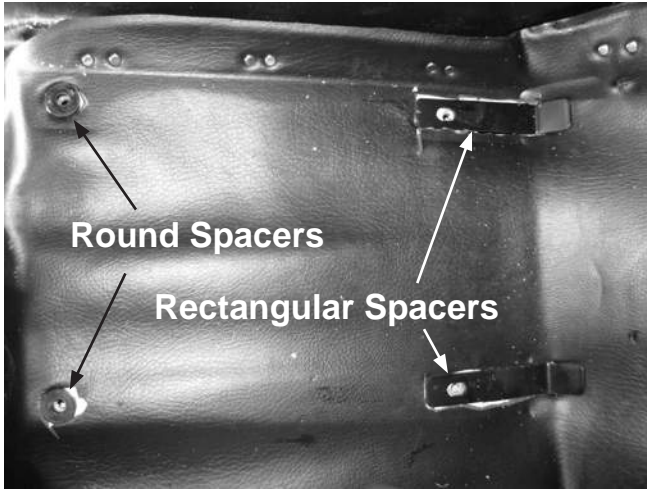

Figure 16-2
8. Place round spacers (A5200041-001) and the rectangular spacers (A5200042-001) concentric with the mounting holes (see Figure 16-2).